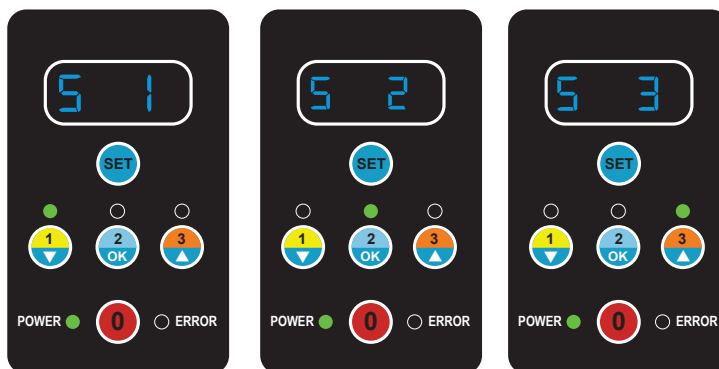

Figure 5 - S1, S2, S3 Shown on Display
1. Enter programing mode by pressing and holding the **SET** button for at least three (3) seconds when the pump is in the stopped (OFF) position. Once SCHE begins flashing on the LED display, press the **2 OK** button.
2. After entering the schedule menu, S1 (speed/power level setting 1) flashes on the LED display. Use the **1** and **3** buttons to select between S1, S2, and S3. Press the **2 OK** button to edit the selected setting. (See Figure 5)